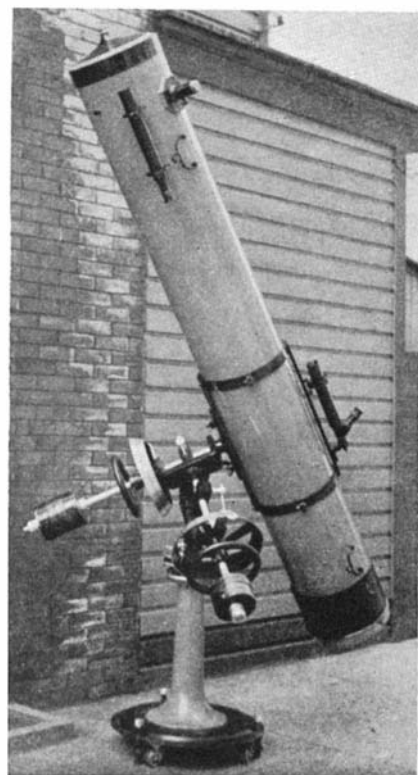

Figure 4: New member of 12" Club
**M**OUNTING a 12" telescope semi-portably is no problem if you don't have to trundle it far. Figure 4 shows such a one, made by Edward J. Hejna, 3358 Jasper St., Philadelphia, Pa. It is a "Wheemout" Type.